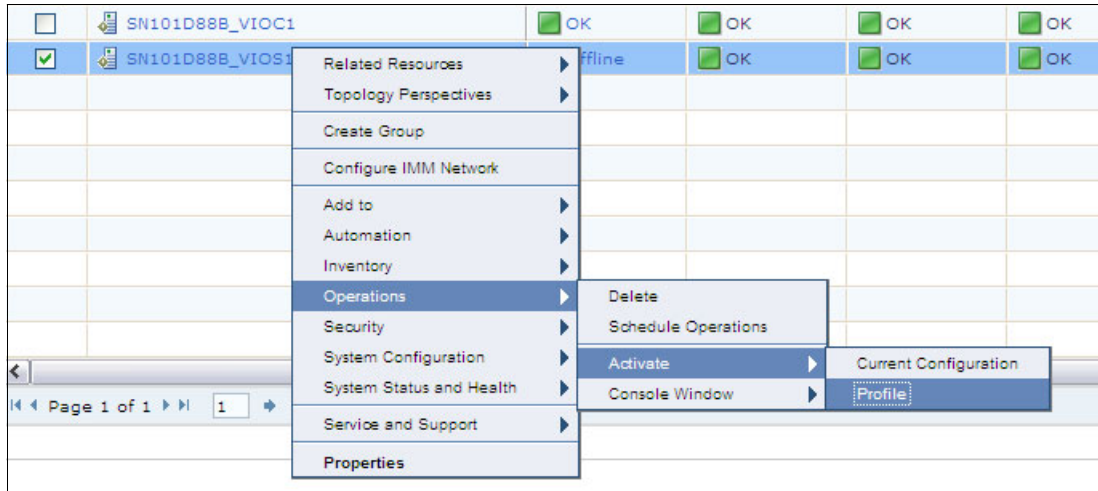

Figure 10-18 Activating the VIOS profile
16. Right-click the created VIOS, and select **Operations** → **Activate** → **Profile** as shown in Figure 10-18.